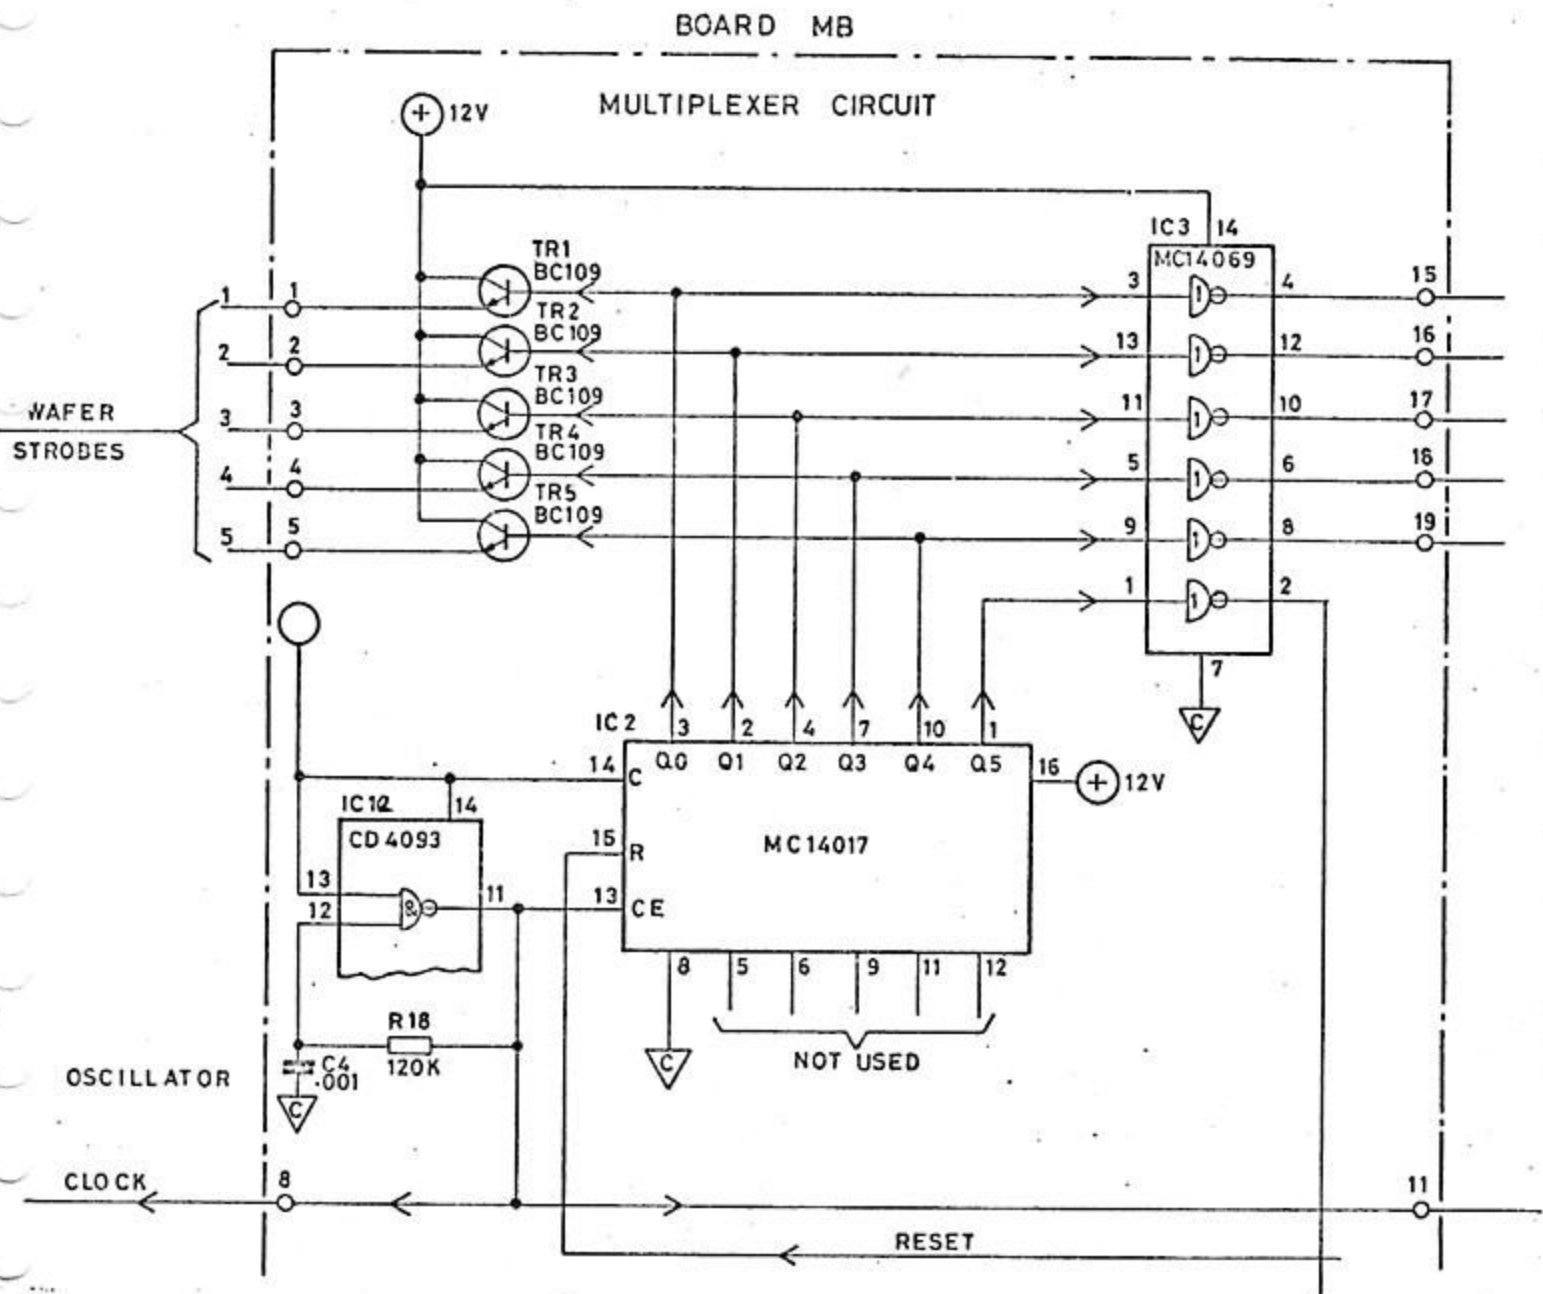

Fig.2 Clock pulse generator and multiplexer circuit
3. The clock generator (Fig.2) produces sequential output pulses at a nominal 10 kHz rate which are multiplexed and routed to the frequency selection circuits, the display inhibit gates and to the output stage latches, which interface with the transceiver.